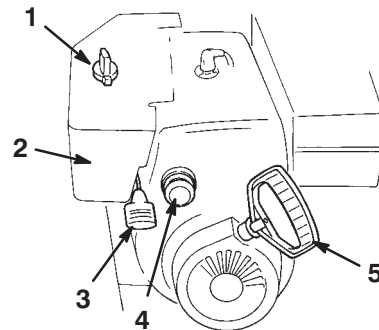

Figure 14
- **Choke** (Fig. 14)—Move the choke to the $\left| \begin{array}{l} \text{Full} \\ \text{Off} \end{array} \right|$ position to start a cold engine. As engine warms up, gradually move the choke to the *Off* position.
- **Ignition Switch** (Fig. 14)—Insert the key before starting the engine. To stop the engine, remove the key.
- **Throttle** (Fig. 14)—Move the throttle upward to increase the engine speed; move it downward to decrease the engine speed. Move the throttle to the *Stop* position to stop the engine.
- **Primer** (Fig. 14)—Press the primer to pump a small amount of gasoline into the engine for improved cold-weather starting.
- **Recoil Starter** (Fig. 14)—The recoil starter is on the back side of the engine. Pull the recoil starter to start the engine.
2. Remove the key from the ignition switch (Fig. 14).
3. Pull the choke knob off (Fig. 14).
2. Move the throttle to the *Fast* position (Fig. 14).
5. Rotate the choke (Fig. 14) to the *On* position.
6. Insert the ignition key (Fig. 14).
7. Cover the hole in the center of the primer (Fig. 14) with your thumb and slowly push in the primer three times, pausing a moment between pushes.
8. Grasp the recoil starter handle (Fig. 14) and pull it out slowly until positive engagement results; then pull the handle vigorously to start the engine.
10. After the engine starts, immediately rotate the choke (Fig. 14) to the 3/4 position. As the engine warms up, rotate the choke to the 1/2 position. When the engine warms up sufficiently, rotate the choke to the *Off* position.